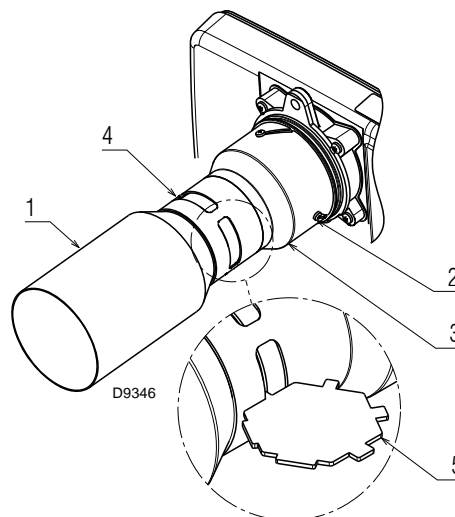

Fig. 19
- Loosen the screws 2) (Fig. 19) and slightly turn the flame tube 3). The required opening position is indicated in Tab. A, page 17. Use the template 5) supplied to adjust the combustion head, as shown in Fig. 19.